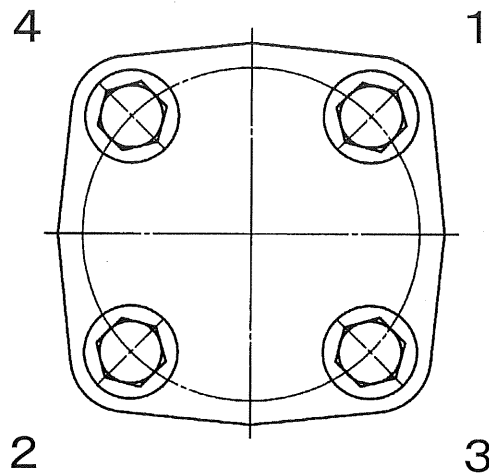

Figure 6.2 Examples for the Sequence of Bonnet Bolts Tightening
- 4) For tightening the bonnet bolts, diagonal opposite bolts shall be tightened alternately as shown in Figure 6.2 until the body flange and bonnet flange come into close contact.
- 2) For tightening the bonnet bolts, diagonal opposite bolts shall be tightened alternately and uniformly as shown in Figure 6.2 until the body flange and bonnet flange come into close contact.